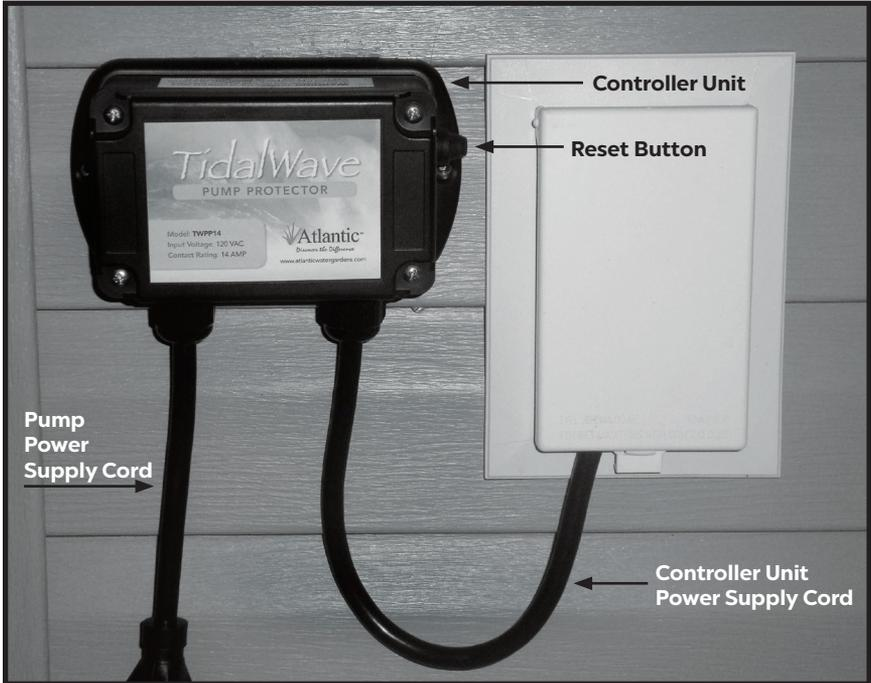

FIGURE 1
Note: Make sure that the Pump Protector is high enough that the Pump Power Supply Cord (figure 1) is not lying on the ground. The Pump Protector can either be mounted horizontally or vertically.
1. Connect pump motor to the pump power supply cord. (See figure 1.)
2. Plug the controller power supply cord into GFCI protected outlet. The pump should start and buzzer will sound. (See figure 1.)